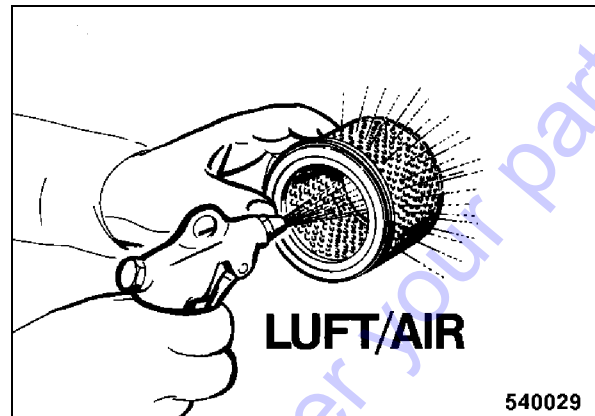

Fig. 55
- In case of dry fine dust blow out the filter cartridge carefully from inside to outside with dry, clean compressed air (Fig. 55) (max. 6 bar).